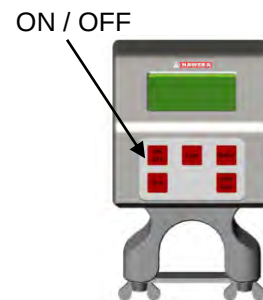

Fig. 4
- Turn the inclinometer on using the ON/OFF button (Fig. 4)